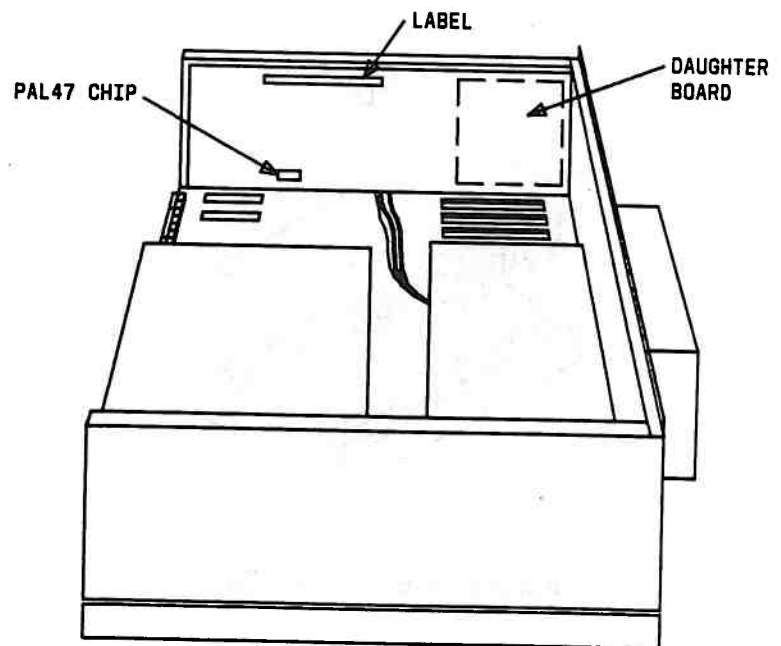

Figure 3-47. VDC PAL47 Chip, Label, and Daughter Board Locations
- a. Look for a small label (usually yellow) located in the center top section on the VDC (Figure 3-47). The label has the level number on it.